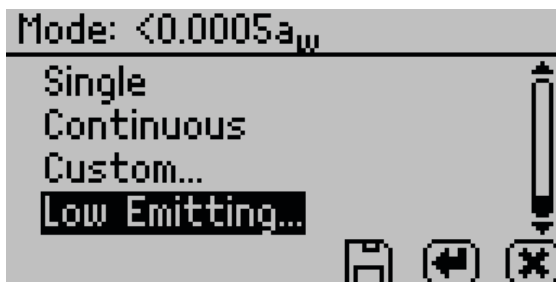

Figure 42 Low-Emitting mode screen
- Low-Emitting mode gives the option of speeding up test time by adjusting the equilibrium trigger value (Figure 42).